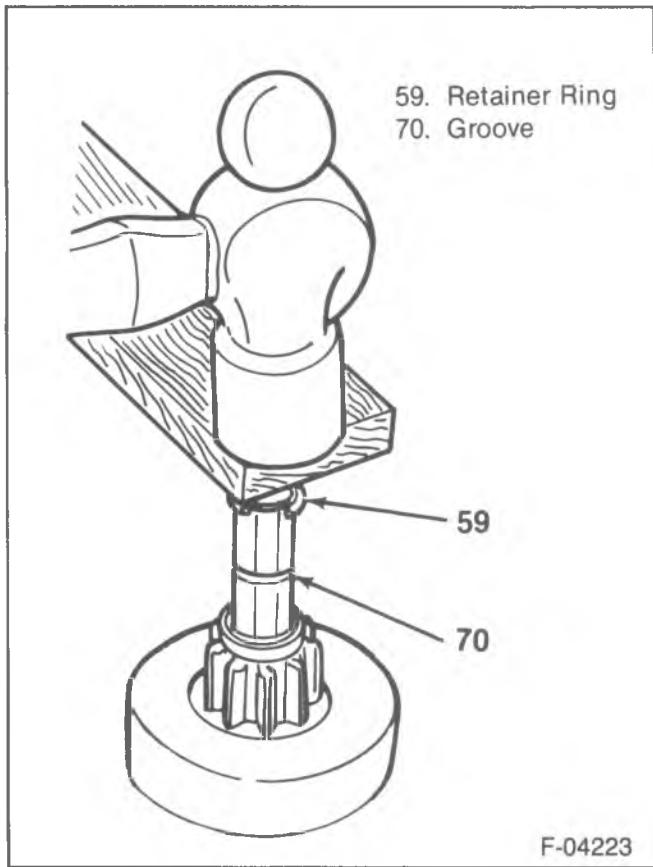

Figure 34—Forcing the Retainer Ring on the Shaft
5. Retainer ring (37) on the shaft (figure 34).